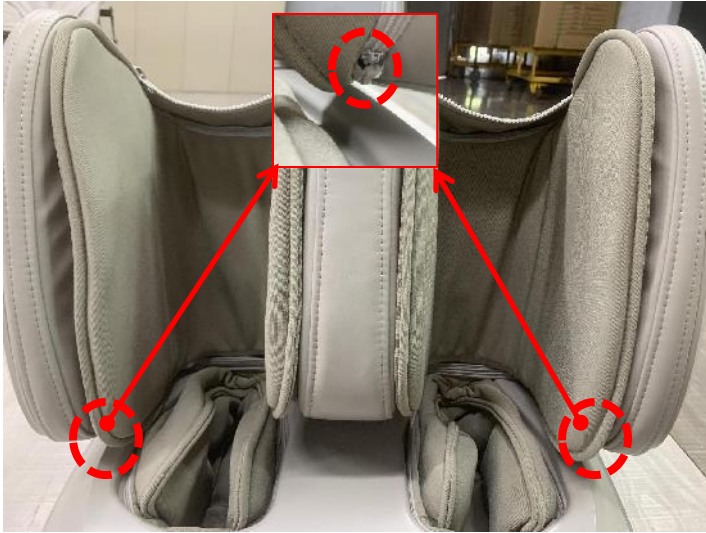

Figure 1
1. Unzip and remove the upper leg kneading cloth (Figure 1)